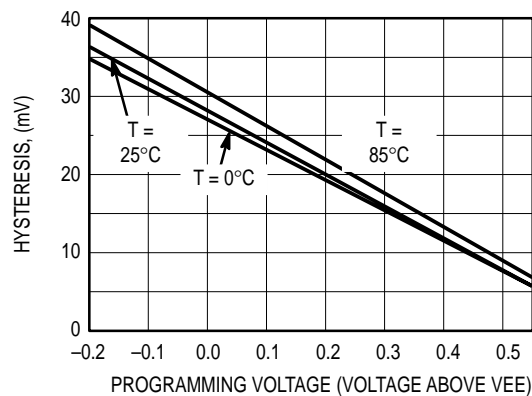

Figure 2. Hysteresis Programming Voltage
1. The HYS pin programming characterization information is shown in Figure 2, The hysteresis values indicated in the data sheet are for the condition in which the voltage on the HYS pin is set to  $V_{EE}$ .
2. Hysteresis skew ( $V_{skew}$ ) is provided to indicate the offset of the hysteresis window. For example, at 25°C the nominal hysteresis value is 27 mV and the  $V_{skew}$  value indicates that the hysteresis was skewed from the reference level by 1 mV in the negative direction. Hence the hysteresis window ranged from 14 mV below the reference level to 13 mV above the reference level. All hysteresis measurements were determined using a reference voltage of 0 mV. The hysteresis skew values apply over the programming range shown in Figure 2.